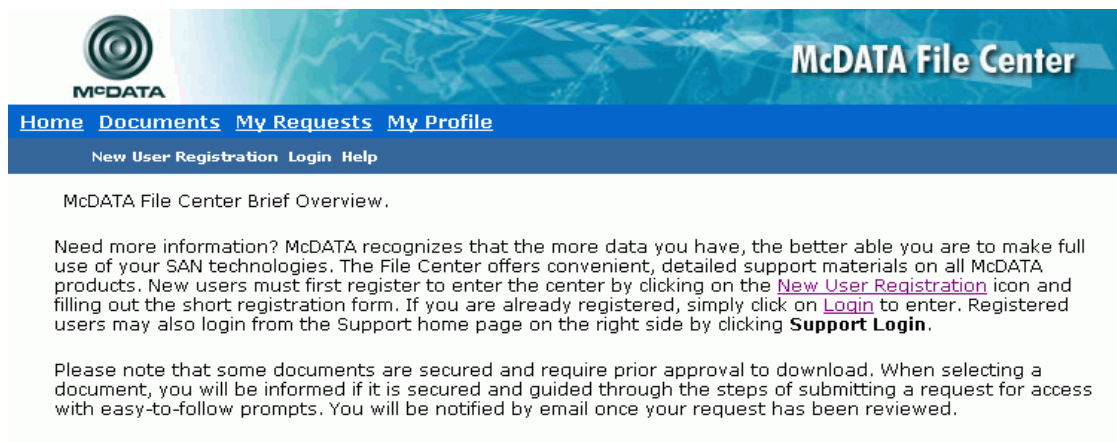

Figure 2-114 McDATA File Center Home Page
1. At a PC with Internet access, open the McDATA File Center home page (Figure 2-114). The uniform resource locator (URL) is <http://central.mcddata.com>.